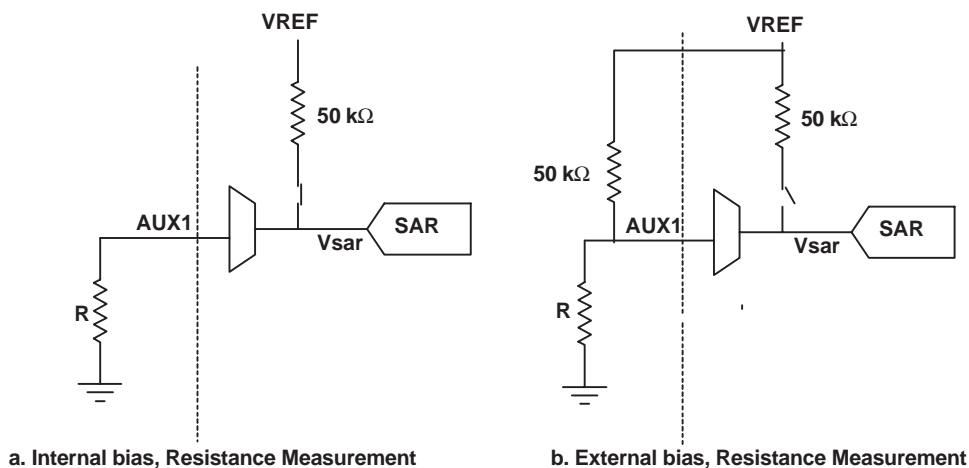

Figure 34. Connection Diagram for Resistance Measurement
The TSC2101 provides feature to measure resistance using auxiliary inputs. It has two modes of operation: (1) External bias resistance measurement (2) Internal bias resistance measurement. Internal bias resistance measurement mode does not need an external bias resistance of 50 kΩ, but provides less accuracy because of on chip resistance variation, which is typically $\pm 20\%$. Figure 34 shows connection diagram for resistance measurement mode on AUX1.